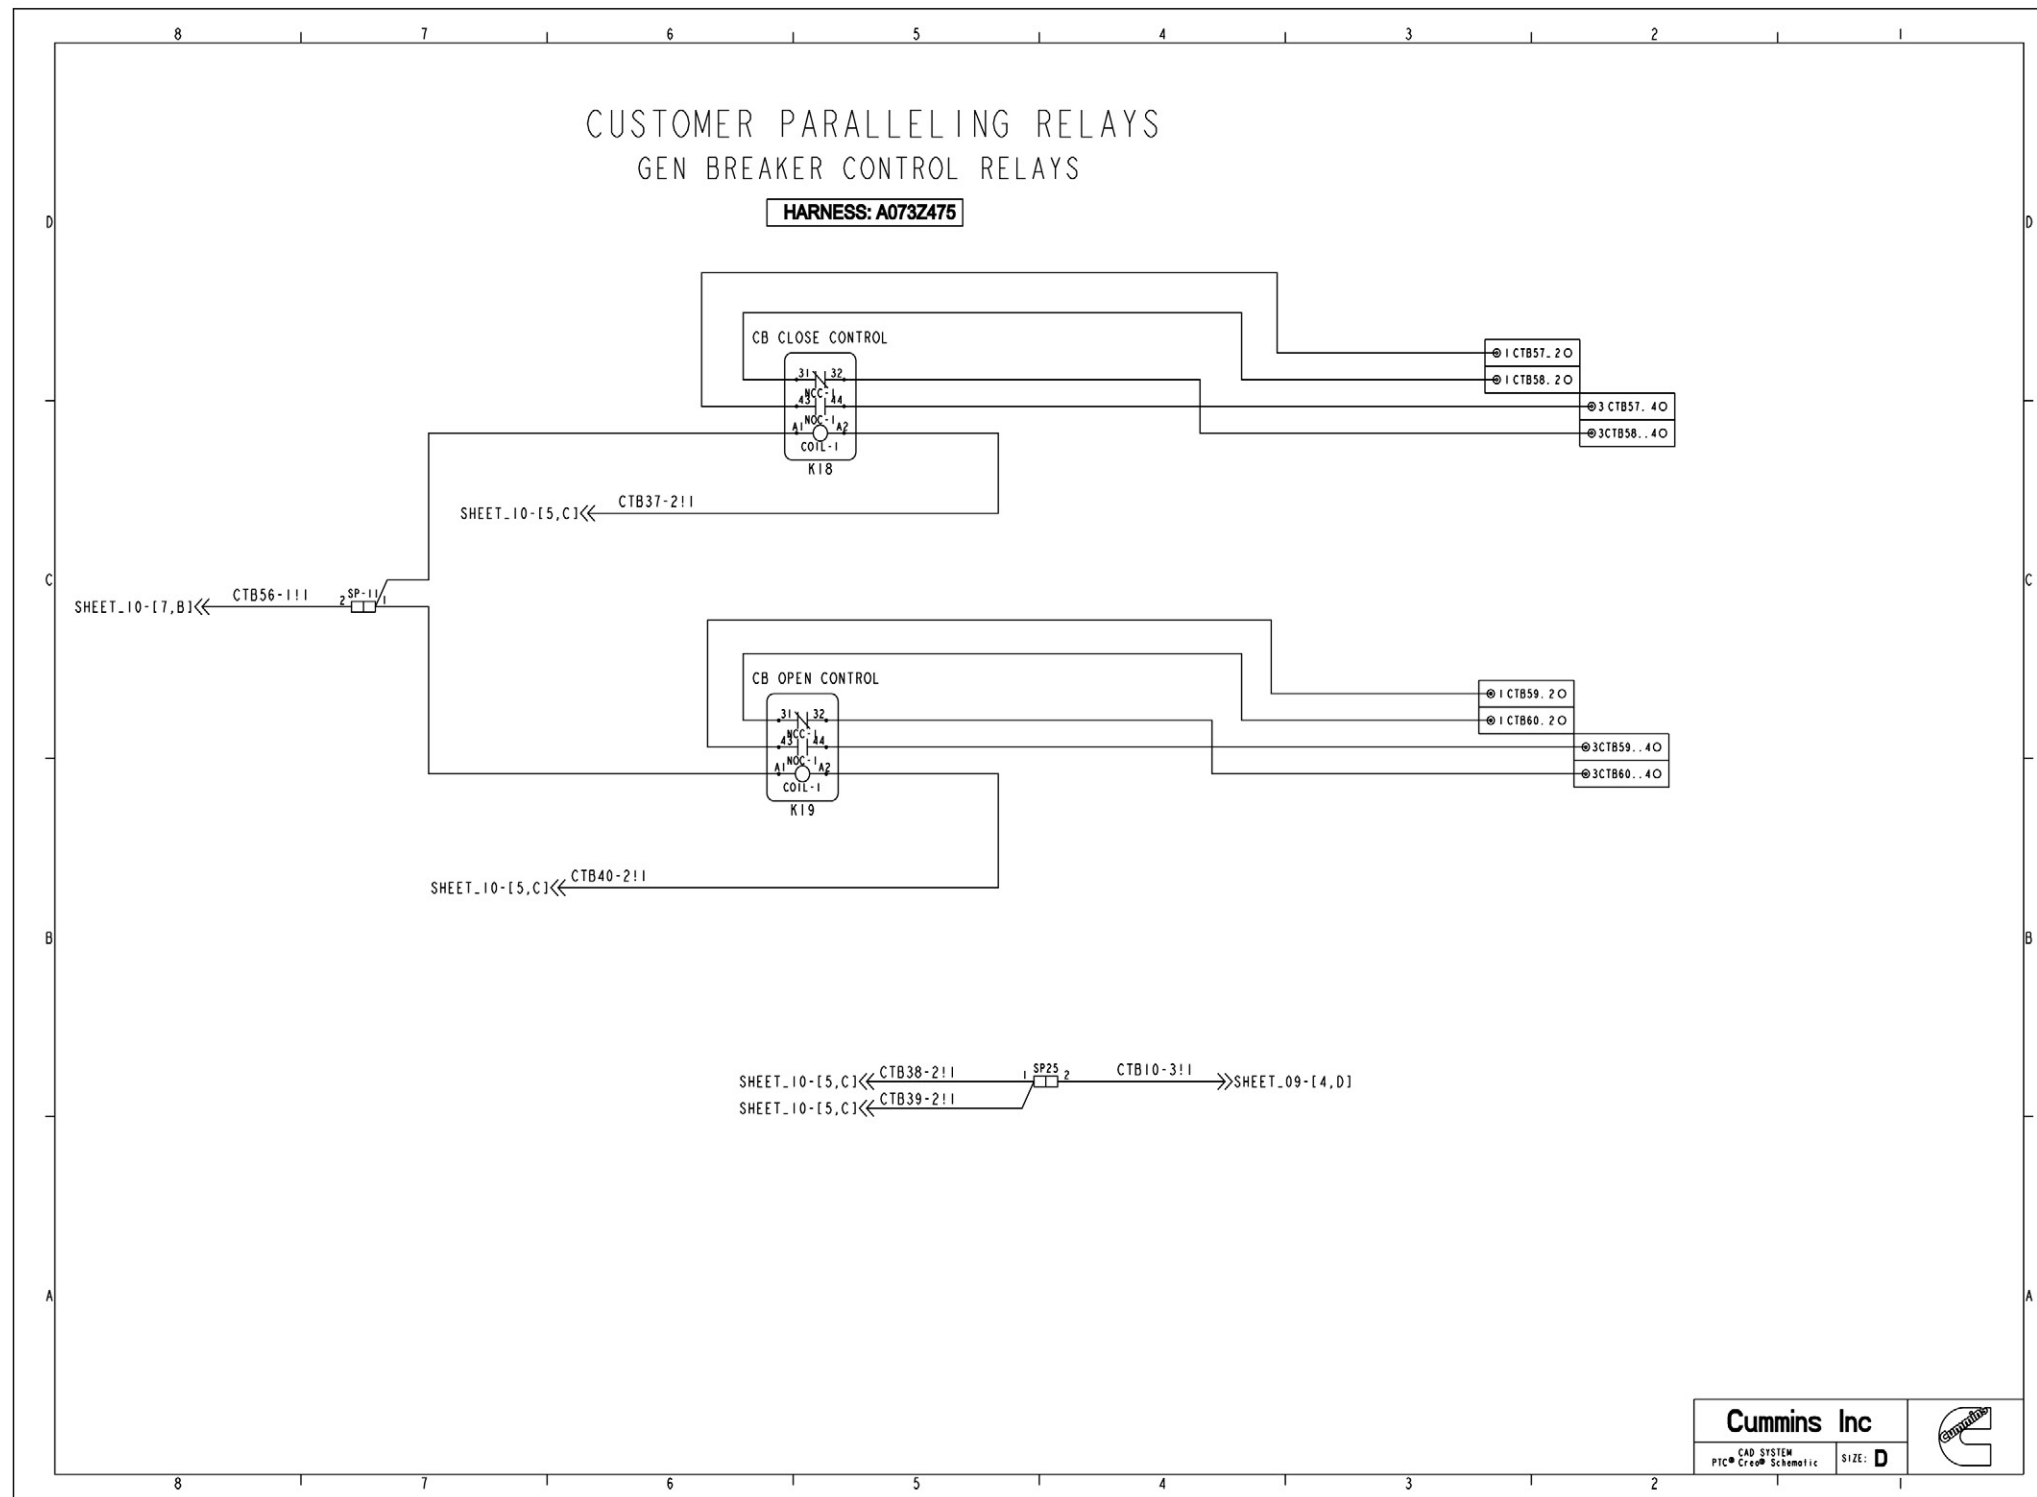

FIGURE 69. WIRING SCHEMATIC (SHEET 14)
- Figure 69. Wiring Schematic (Sheet 14) 124